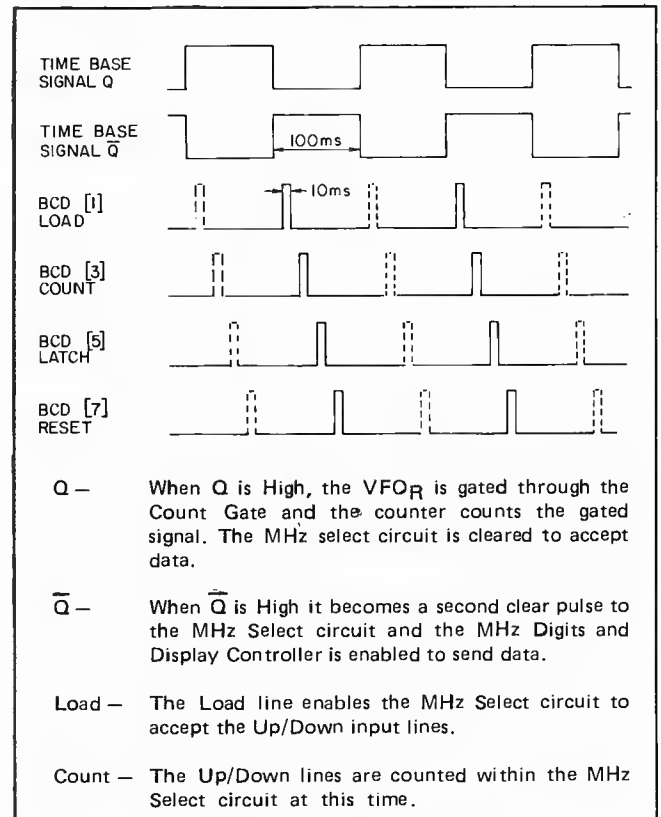

Figure 4-12. Timing Sequence.
4-178. The timing of the Up/Down Counter, latches, and reset is controlled by the BCD-to-Ten Decoder U28. All of these functions take place when U22A is not on (refer to timing diagram, Figure 4-12). When \bar{Q} is high, U22A will be on, Q will be low to inhibit NAND gates U22B, U30A, U30B, and U30C. When the BCD information from U27 (input to U28) is a BCD 1 (H) and Q is high, the output of U22B is low and frequency range information is loaded into the Up/Down counter U23. When the output of U27 is a BCD 3, the output of U29C is high, enabling the Up/Down code to be applied to U23. When the BCD code from U27 is a 7, U31A output is high to provide a reset for the counters. When the output of U27 is a BCD 5, the output of U31A is high, providing a latch for the counters.